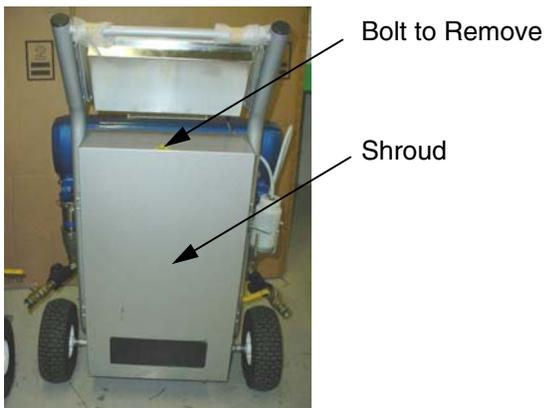

FIG. 3
3. Remove heater shroud from back of proportioner. Remove bolt on top of the shroud. Lift the shroud up and away from the proportioner. Set aside the bolt and discard the shroud. See FIG. 3.